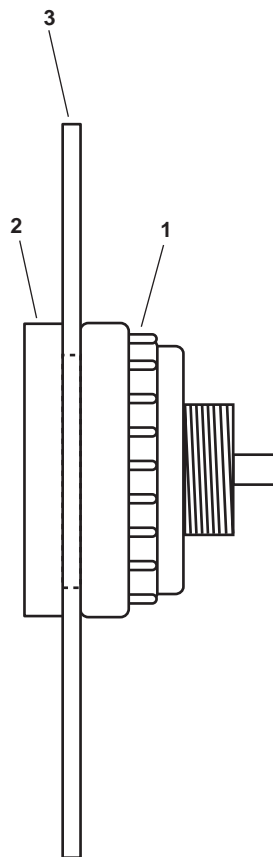

Figure 9. Pushbutton
2. Remove the retaining nut (figure 9, item 1) that secures the pushbutton (figure 9, item 2) to the door (figure 9, item 3) and remove the pushbutton.
1. Install the pushbutton (figure 9, item 2) in the door (figure 9, item 3) and secure it with the retaining nut (figure 9, item 1).